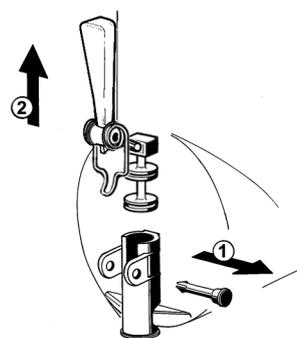

figure 10
5 - Dismantle the faucet assembly (see figure 10).
- Assemble the faucet by reversing the disassembly steps (see figure 10)